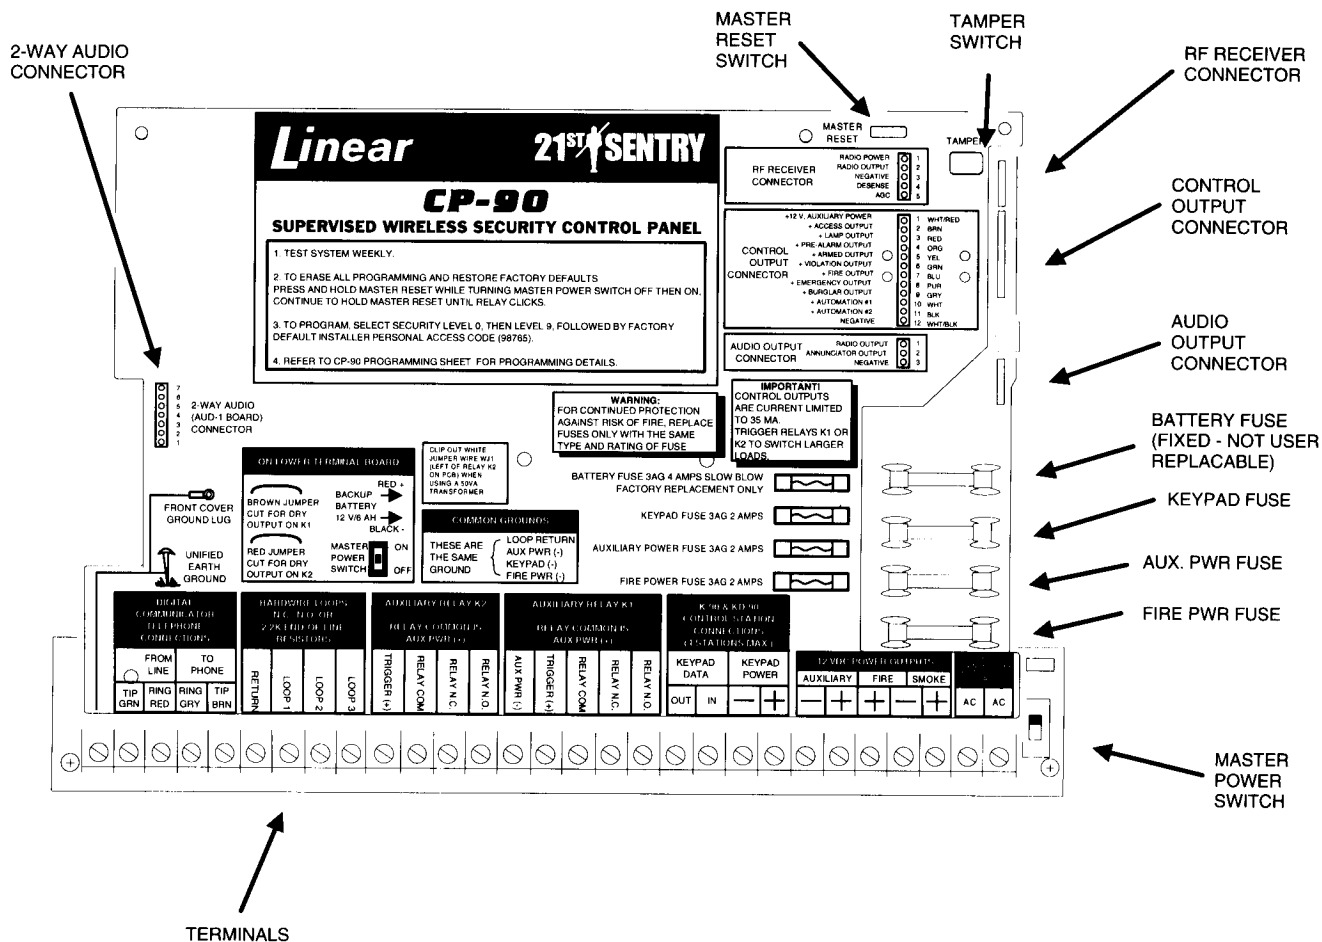

Figure 1. CP-90 Parts Locator
- STEP 1** Be sure the MASTER POWER switch is off (see Figure 1 for switch location).